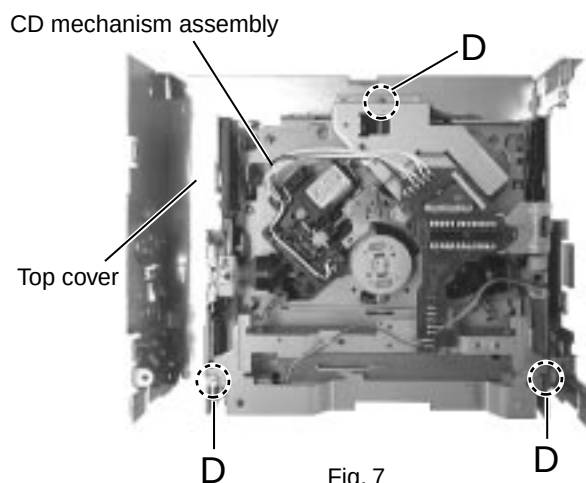

Fig. 7
■ Removing the CD mechanism assembly (See Fig.7)